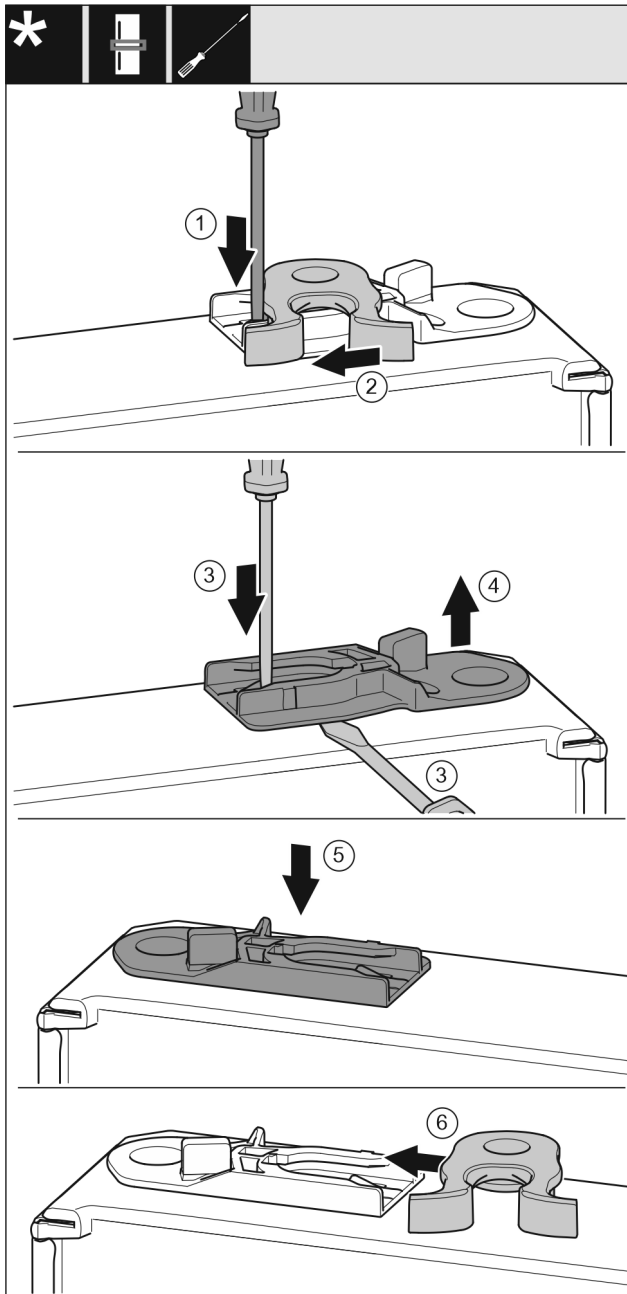

Fig. 21
- ▶ Use a slotted screwdriver to push the tab Fig. 21 (1) downwards.
- ▶ Pull the closing hook Fig. 21 (2) out of the guide.
- ▶ Pull out the guide bush Fig. 21 (3, 4): Press the tab with a flat-blade screwdriver and at the same time move the flat-blade screwdriver under the guide bush.
- ▶ Insert the guide bush Fig. 21 (5) supplied on the other side of the housing.
- ▶ Slide the closing hook Fig. 21 (6) into the guide.